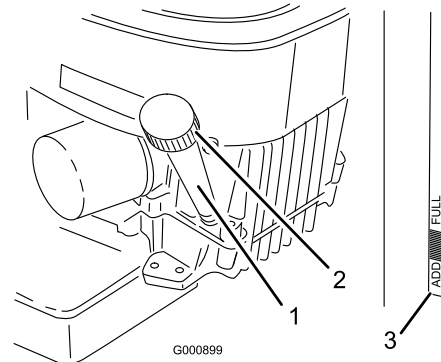

Figure 24
- Clean around the oil dipstick (Figure 24) so that dirt cannot fall into the fill hole and damage the engine.
- Unscrew the oil dipstick and wipe the metal end clean (Figure 24).